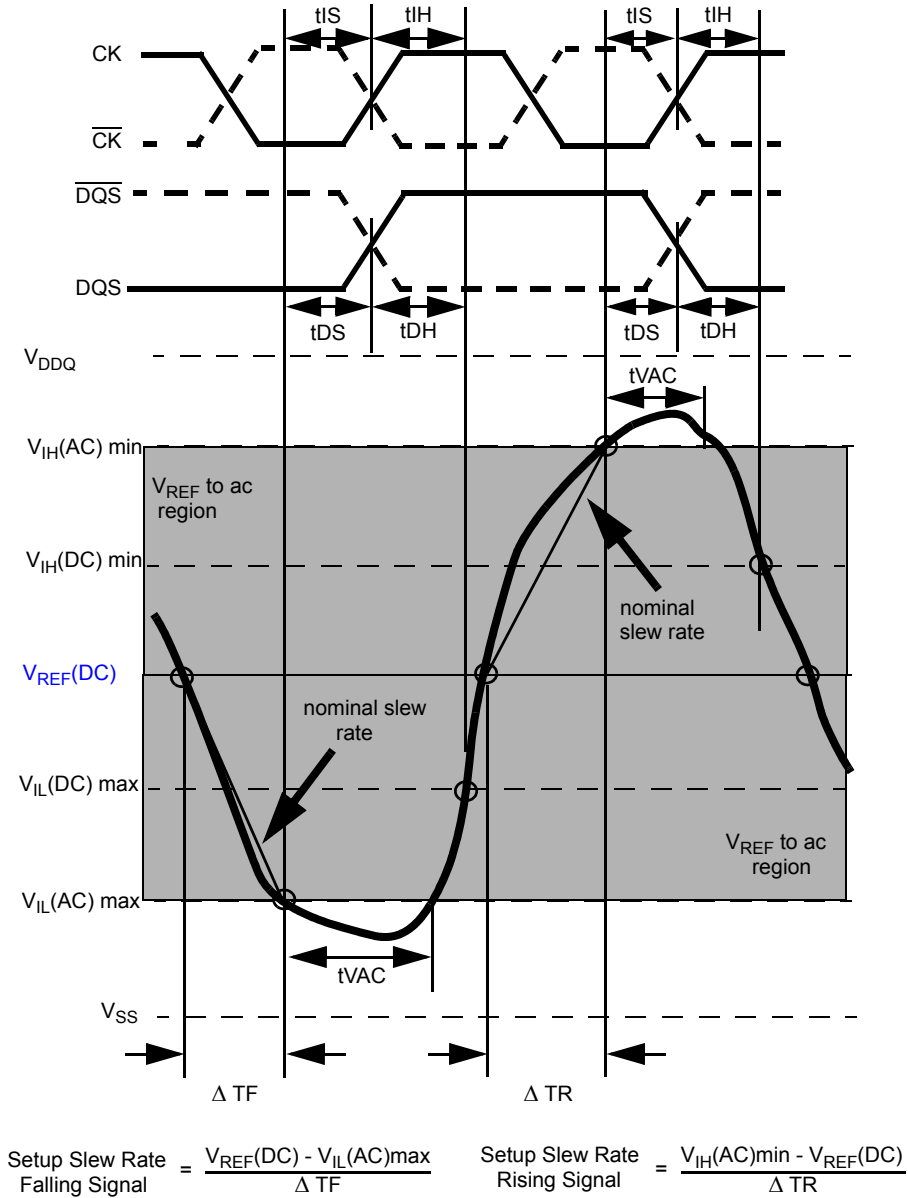

Figure 25. Illustration of nominal slew rate and tVAC for setup time tDS (for DQ with respect to strobe) and tIS (for ADD/CMD with respect to clock).
Setup (tDS) nominal slew rate for a rising signal is defined as the slew rate between the last crossing of VREF(DC) and the first crossing of VIH(AC)min. Setup (tDS) nominal slew rate for a falling signal is defined as the slew rate between the last crossing of VREF(DC) and the first crossing of VIL(AC)max (see Figure 25). If the actual signal is always earlier than the nominal slew rate line between shaded 'VREF(DC) to ac region', use nominal slew rate for derating value. If the actual signal is later than the nominal slew rate line anywhere between shaded 'VREF(DC) to ac region', the slew rate of a tangent line to the actual signal from the ac level to dc level is used for derating value (see Figure 27).